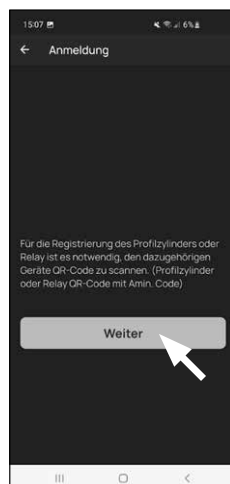

Fig. 4
- 4 Tap on „Next“ (Fig. 4). You may be asked to confirm the app's access to the camera.